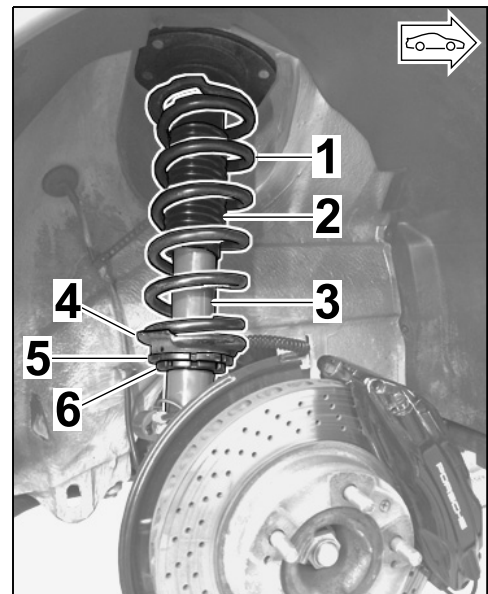

Figure 6
2.6 Install both spring struts ⇒ Workshop Manual 40 8519 Installing front spring strut (front axle, right: ⇒ *Figure 6*).